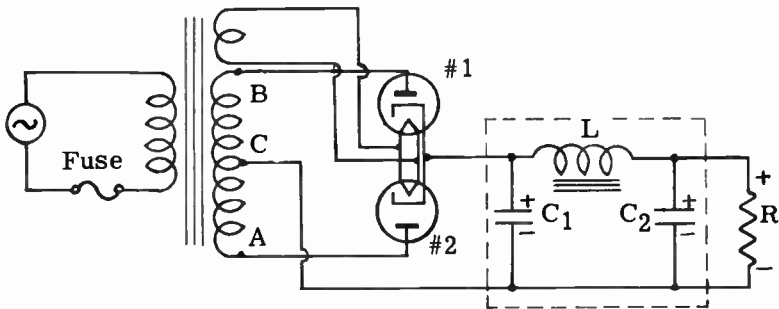

FIG. 7-7. FULL-WAVE RECTIFIER WITH CAPACITOR INPUT FILTER.
**THE CAPACITOR INPUT FILTER.** Fig. 7-7 shows a capacitor input filter system connected to the output of a full-wave rectifier. The filter is enclosed within the dotted line and is recognizable as a capacitor input type because the filter component nearest to the rectifier is a capacitor ( $C_1$ ). The complete filter is called a “pi” filter because its component arrangement resembles the Greek letter  $\Pi$  (pronounced “pi”).
**A SHORT-CIRCUITED FILTER CAPACITOR.** If capacitor C1 of Fig. 7-7 shorts, the rectifier tubes will draw excessive current. As a result, the fuse in series with the primary of the power transformer, will blow. The fuse acts as a protective device for the transformer in the power supply. If there is no fuse, the plates of the rectifier tube will become red hot due to the large electron flow. Any time that there is an excessive current flow of current in a tube, its plates will become red hot. The tube may become damaged and will have to be replaced. The primary or secondary windings of the transformer may also burn out due to the excessive current. Before replacing the damaged tube, the cause of the high current should be found and corrected.
If capacitor C2 in Fig. 7-7 were to short, a heavy current would flow through the choke coil. The choke coil might burn out, in addition to the other components. It is important, therefore, that the primary of a power transformer always be protected by a proper size fuse. If either C1 or C2 shorts, there obviously will be no B+ voltage, and the equipment would not function.